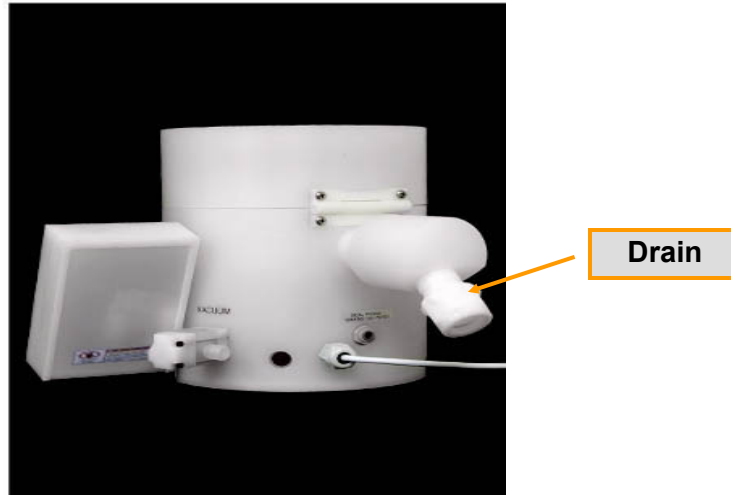
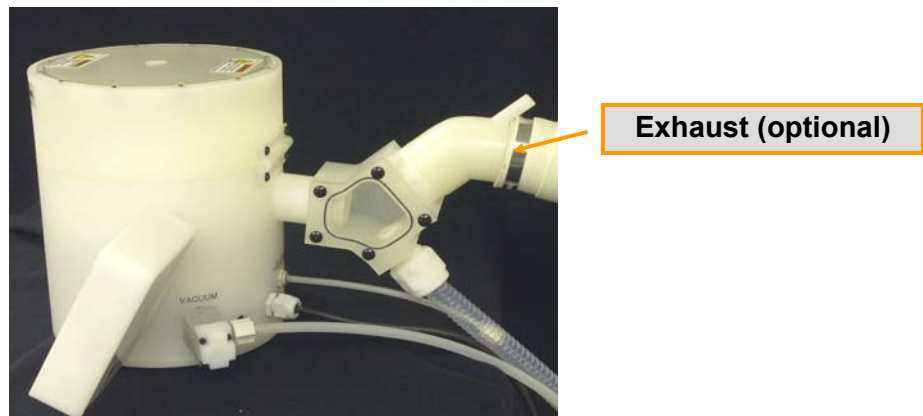
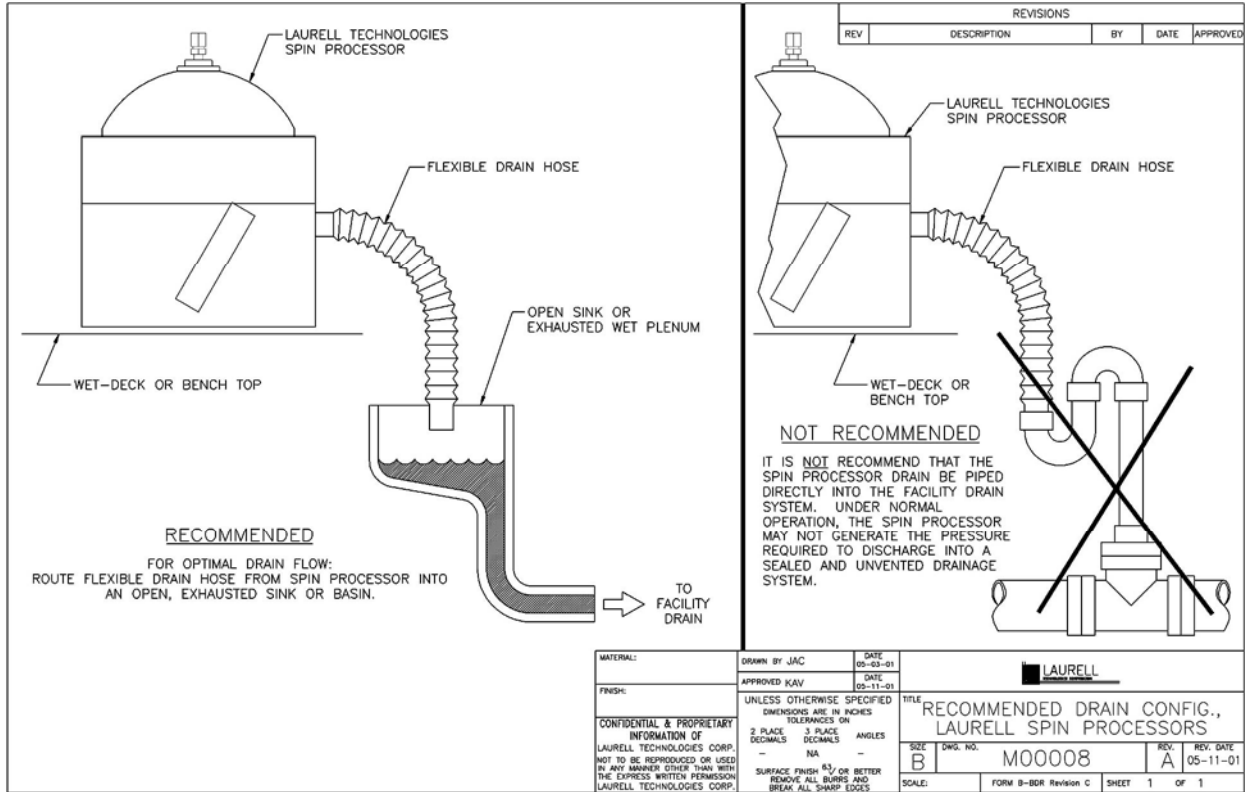

Figure 2-2A
Figure 2-2B
Figure 2-2C
- Drain – Open to atmosphere – NOT restricted by a vapor trap (see Figure 2-2C)
Figure 2-2A is the standard drain configuration. Exhaust is optional on the standard LITE model. Figure 2-2B is our down-flow exhaust option. An exhaust source of approximately 0.5" to 2.5" H₂O column, as measured with a differential pressure gauge, is usually sufficient for processing. Figure 2-2C is a drawing of the recommended drain configuration.